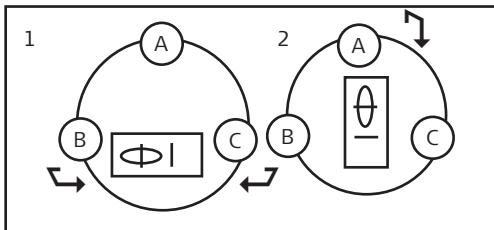

Fig 5-3
- 5.3.2 Turn the collimation unit so that the axis of the tubular vial is parallel to the connecting line of B and C. adjust B and C so that the tubular vial is centered (as shown in 1. of Fig. 5-3).